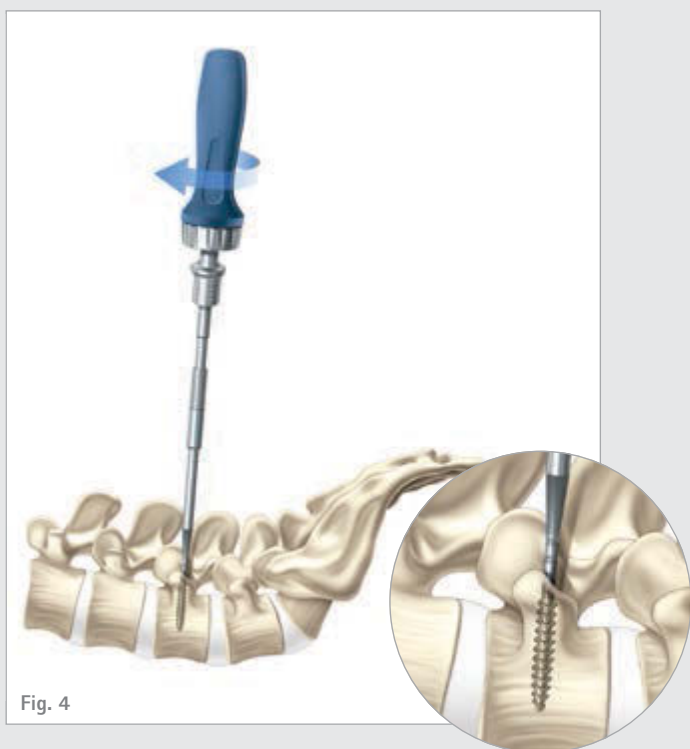

Fig. 4
- To tap, attach the straight Ratchet Handle or the T-Handle (FW165R or FW167R) to the appropriate tap based on the screw diameter. (Fig. 4)